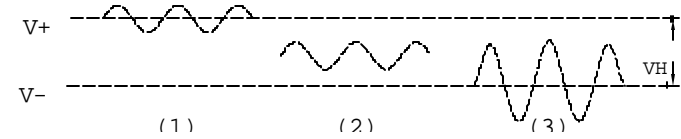

Fig. 3 States under which the schmitt circuit doesn't work
But if both V_+ and V_- don't react each other, no output will be obtained and the Schmitt circuit will not work out with the states of (1), (2) and (3) of Fig. 3 shown as below.